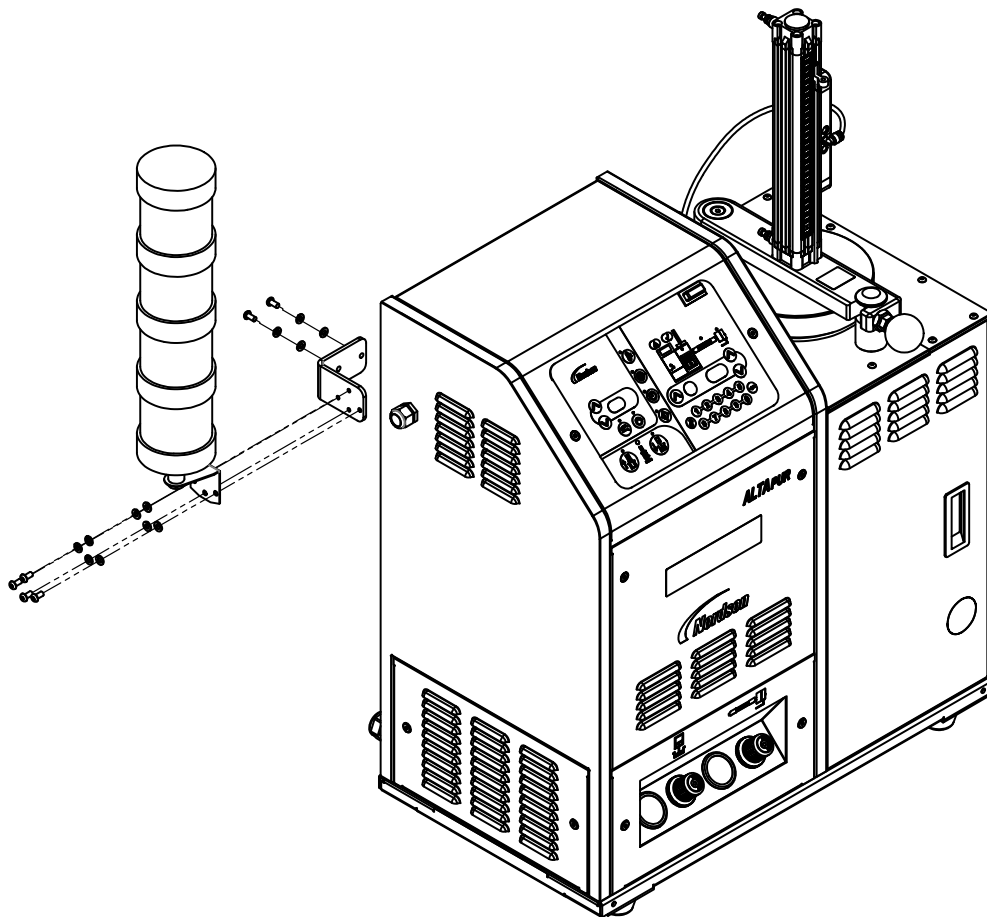

Figure 7-25 Light tower mounting
1. Mount the bracket with screw and washer on the melter. Refer to figure 7-25.
See Figure 7-25.